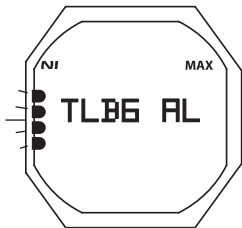

Fig. 43 - SET TLBG AL
**Set TLBG Alarm,** information includes (Fig. 43):